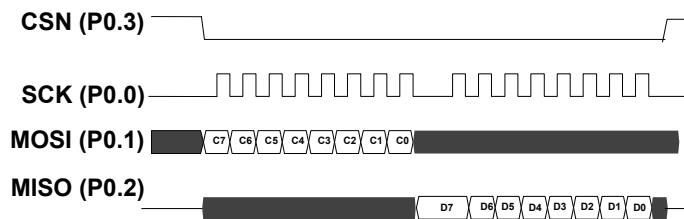
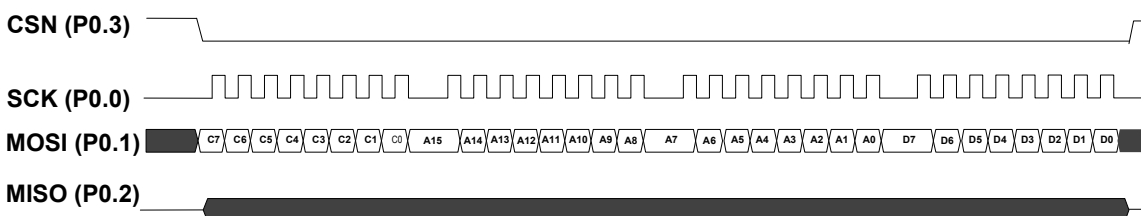

Figure 63. SPI read command without address
Figure 66. SPI OTP write operation, shown with 1 databyte
An SPI command always starts with the external master sending a command byte to the OTP slave, followed by a variable number of address and data bytes. The number of address and data bytes is specific to each command, as shown in Table 119. on page 141. In Figure 63. on page 141 to Figure 66. on page 142,  $C_n$  are the SPI command bits.  $A_n$  are the address bits and  $D_n$  are the data bits (note: MSBit in each byte first). After  $CSN$  is deactivated, an OTP write command requires the chip to do the OTP programming, and this will take some time to complete. Therefore, it is advised to not issue a new command until the specified amount of time has elapsed. Alternatively, you can repeatedly issue `RDSR` commands until the `FSR.RDYN` bit reads back as 0.
The SPI command `RDSR` reads out the content of the OTP status register `FSR`, and consists of one-command byte and one-data byte as shown in Figure 63. on page 141. By keeping the `CSN` line active after the first data byte, `FSR` will be repeatedly re-read until `CSN` is set inactive.
3. The `PROGRAM` command is sent on the `MOSI` line followed by the two-byte address (address of the first byte) and the data to be programmed/ written, as shown in Figure 66. on page 142.
The SPI command `RDFPCR` reads out the content of the OTP protect configuration register `FPCR`, and consists of one command byte and one data byte as shown in Figure 63. on page 141.
The sequences of command and data in an SPI command are found in Figure 64. on page 141 and Figure 66. on page 142. In these figures only 1 byte of data is shown. Typically for read and write data transfers, the block should be as long as possible (64 to 256 data bytes gives the best performance).